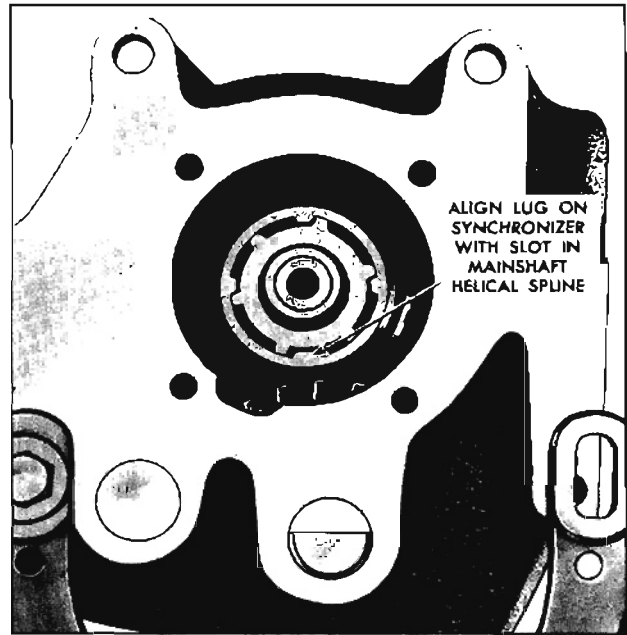

Fig. 7-113 Synchronmesh Alignment
2. Remove extension-to-transmission case bolts and lockwashers and pull extension and mainshaft out of transmission case, leaving second and third-speed clutch assembly and first and reverse gear in case. Do not force mainshaft. Rotate mainshaft and second and third-speed clutch gear to obtain alignment of clutching teeth and splines. (Fig. 7-113)